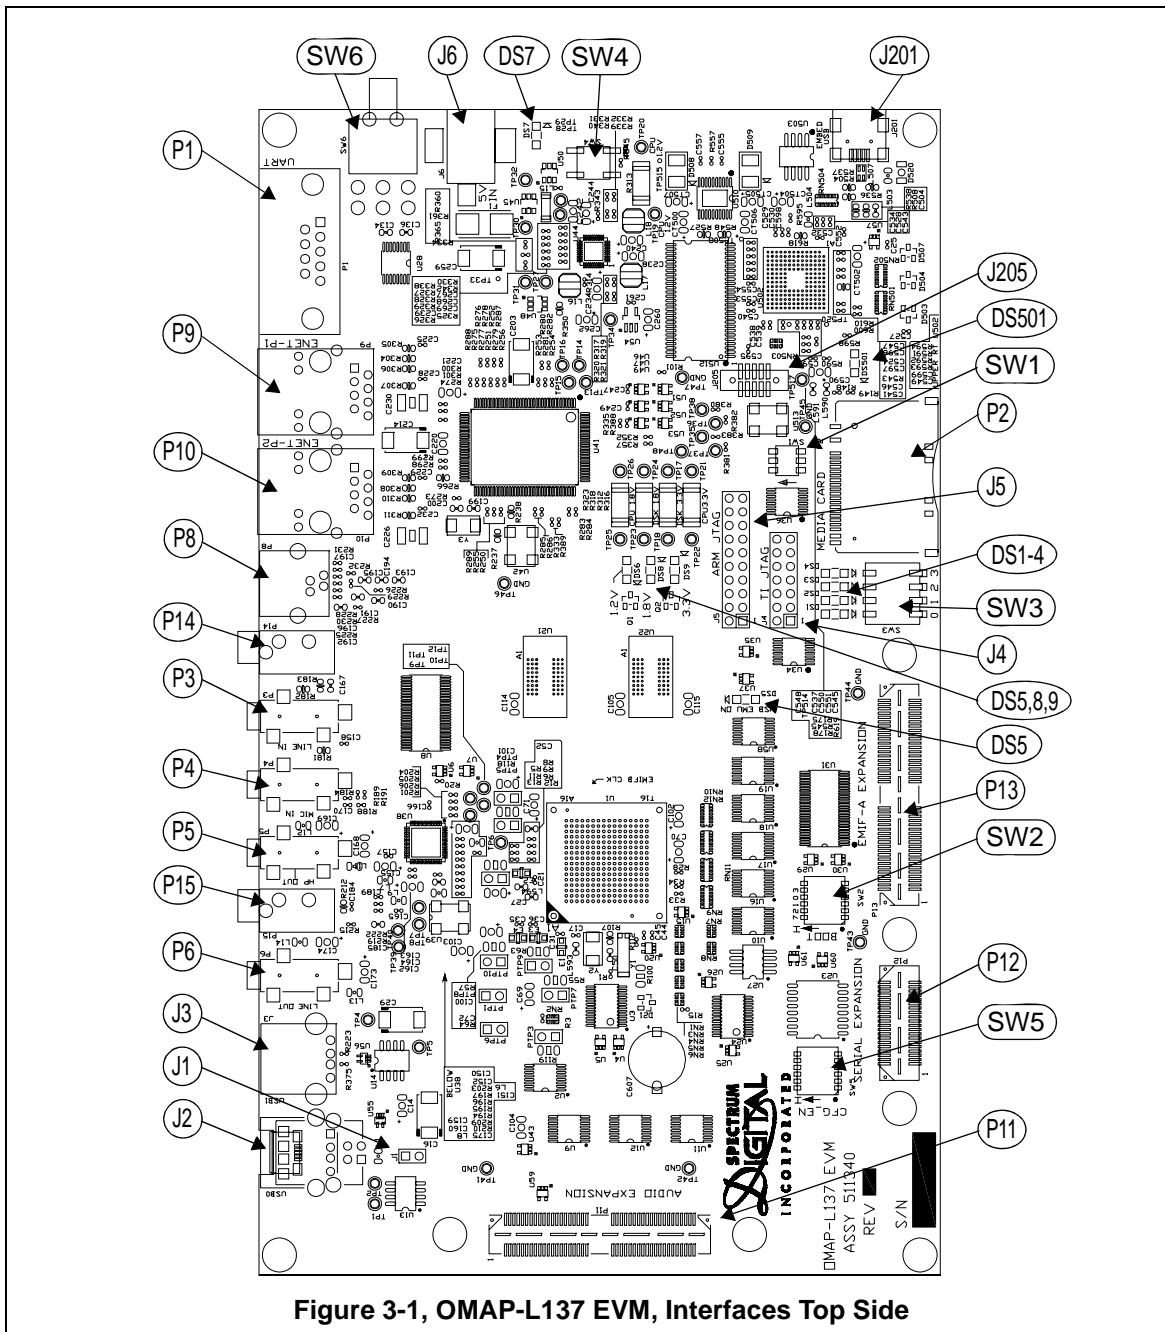

Figure 3-1, OMAP-L137 EVM, Interfaces Top Side
The OMAP-L137 EVM is a 5.0 x 8.55 inch (127 x 217 mm.) ten (10) layer printed circuit board which is powered by an external +5 volt only power supply. Figure 3-1 shows the layout of the top side of the OMAP-L137 EVM.